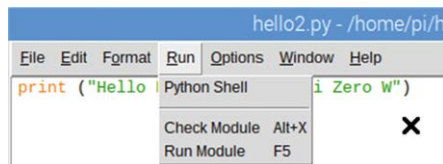

Figure 2.19 Run the program
- Run the program by clicking **Run** and then **Run Module** as shown in Figure 2.19